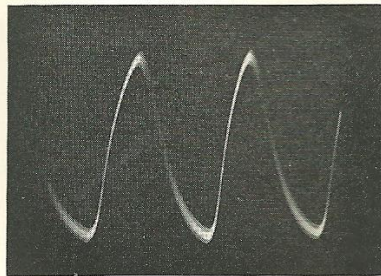
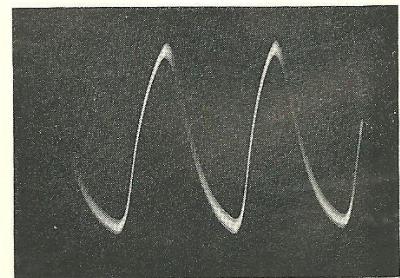

Fig. 85. Pin No. 7 V209 (Horizontal) P-P—6V.
Fig. 86. Pin No. 5 V209 (Horizontal) P-P—6V.
7. Rotate A.G.C. control completely clockwise. Observe waveforms at pin No. 7 and pin No. 5. These should be approximately the same as Fig. 85 and Fig. 86.